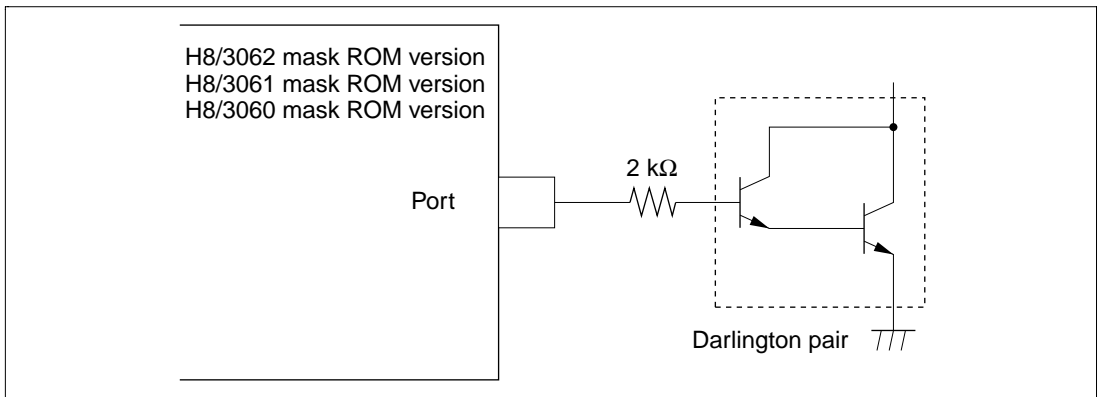

Figure 22.1 Darlington Pair Drive Circuit (Example)
2. When directly driving a darlington pair or LED, always insert a current-limiting resistor in the output line, as shown in figures 22.1 and 22.4.